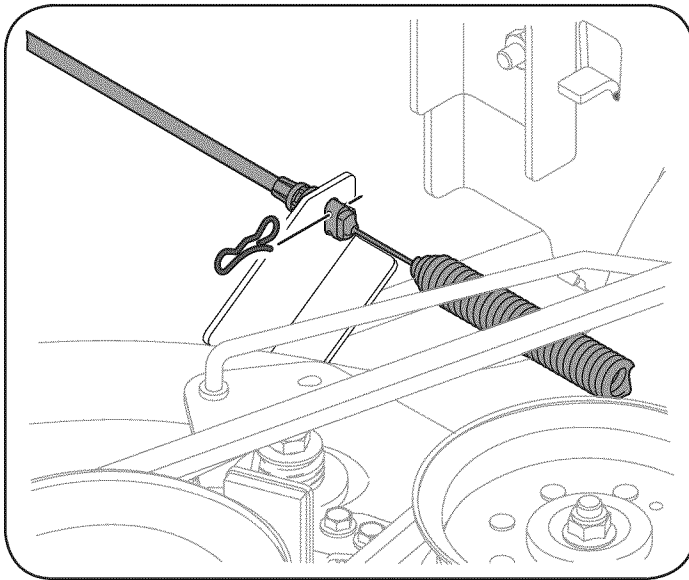

Figure 19
9. Carefully remove the PTO cable from the rear of the cutting deck by removing the bow-tie cotter pin which secures it. Remove the spring from the deck idler bracket. See Figure 19.